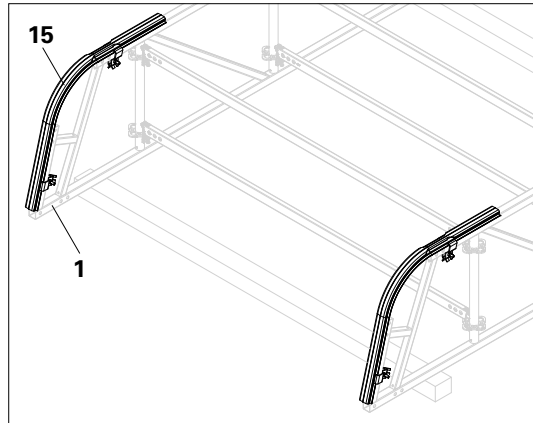

Fig. A2.01
- Position the eave rail (**15**) on the keder tube and top chord of an eave element (**1**). (Fig. A2.01)